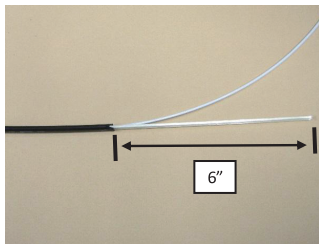

Figure 1
- 2.2 Cut strength members to a length of 6". (Figure 1)